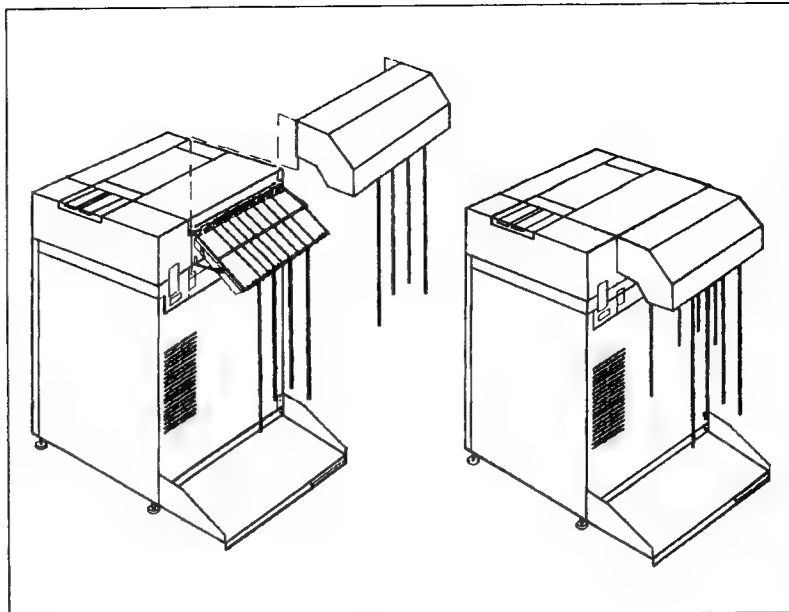

Figure 2-19. Installing Sound Shroud
- f. Install the sound shroud. Slide the sound shroud directly over the wire form (Figure 2-19). Push firmly until it snaps into place. Make sure it fits tight against the back of the printer and flush with the top of the printer. The four chains should hang freely.